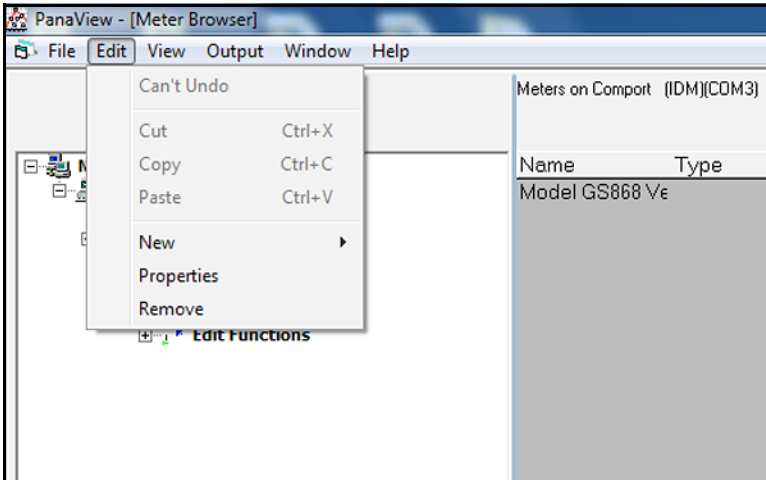
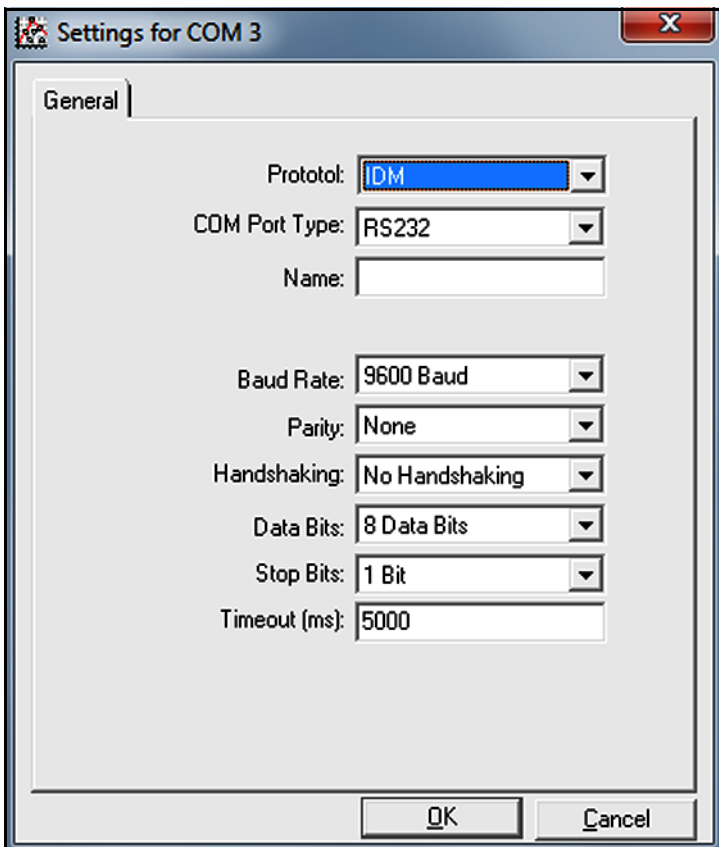
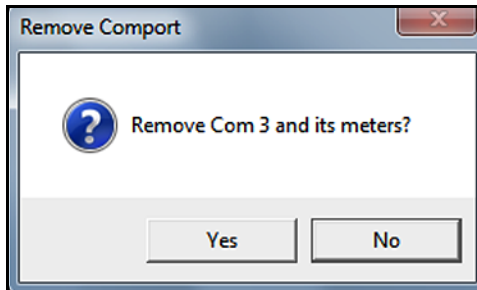

Figure 41: The Edit Menu
Figure 42: Communication Port Settings
Figure 43: Port Removal Confirmation
3. With the desired communication port highlighted, open the edit menu as shown in *Figure 41* below.
1. From the “Edit” menu shown in *Figure 41 on page 58*, click on the “Properties” option to open the dialog box shown in *Figure 42* below.
1. From the “*Edit*” menu shown in *Figure 41* on page 58, click on the “*Remove*” option to open the dialog box shown in *Figure 43* below.